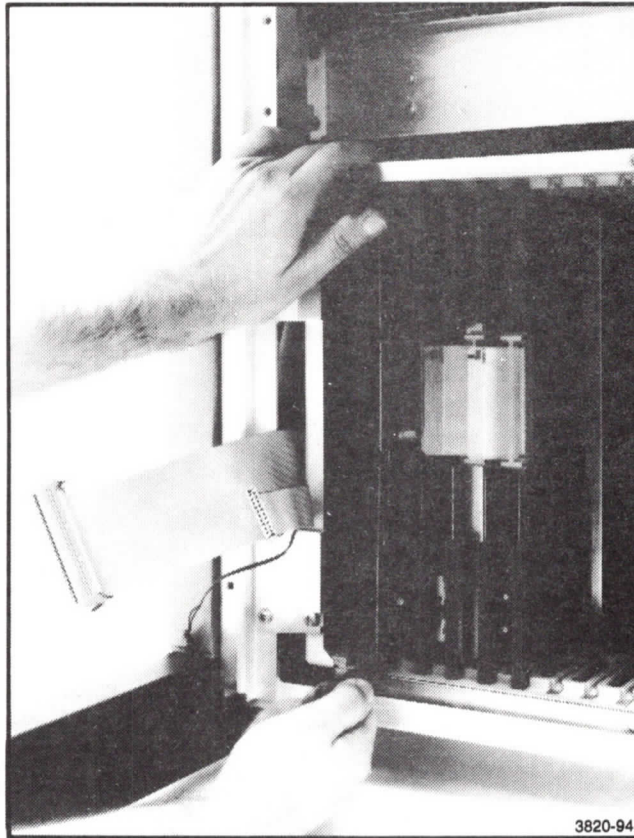

Figure 11-18. Removing Circuit Boards.
2. Pull out on the upper and lower levers on the board. This unlocks the circuit board from the card cage. See Figure 11-18.